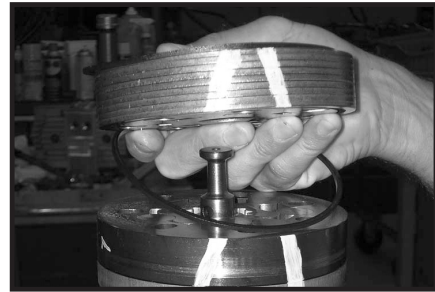

Figure 12
9. Remove manifold (7) and inspect for cracks surface scoring, brinelling or spalling. Replace manifold if any of these conditions exist. SEE FIGURE 12. A polished pattern on the ground surface from commutator or rotor rotation is normal. Remove and discard the seal rings (4) that are on both sides of the manifold.